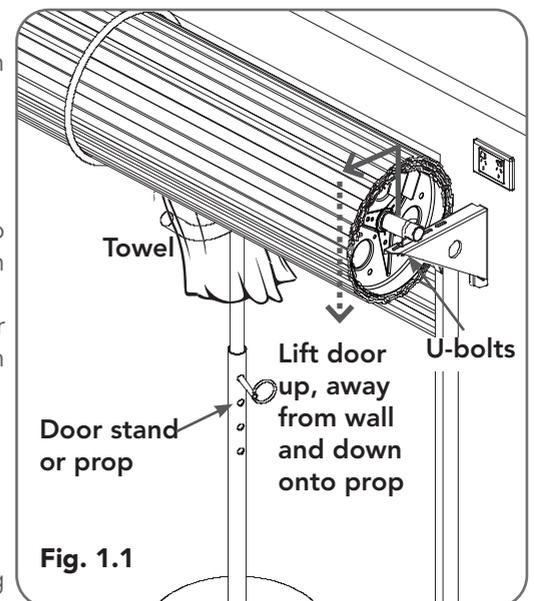

Fig. 1.1
- Lift the door up and away from the wall until clear of the door bracket, before lowering the door to rest on the door stand or prop. **(Fig 1.1)**